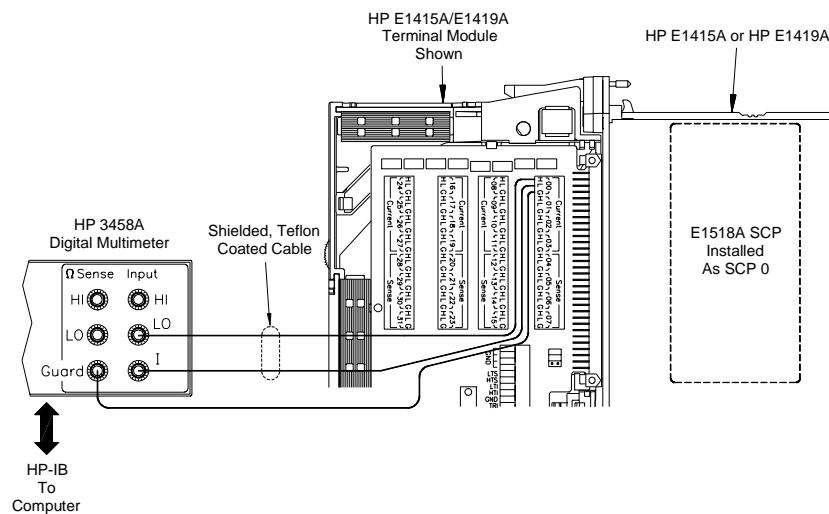

Figure 2-25. Typical DMM Connections for Current Measurements.
- [a] Connect wiring to terminal block and DMM (see Figure 2-25)